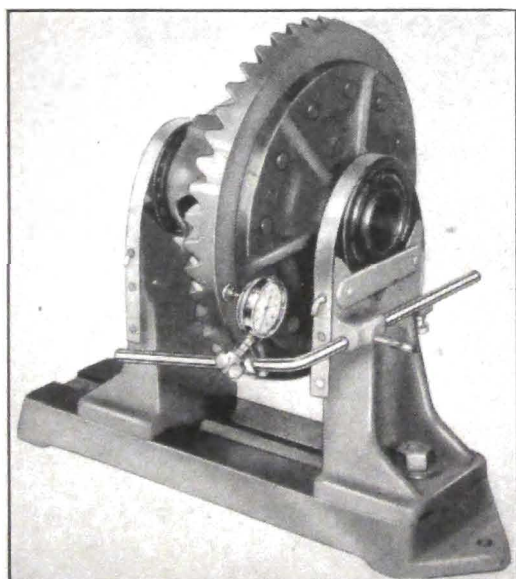

Fig. 4-13. Checking Ring Gear Run-Out
6. Bolt new ring gear to case with $\frac{5}{16}$ " diameter bolts in every other rivet hole. Before starting riveting operation check bolted assembly in tool U-4-B and check run-out of back side of ring gear. See Fig. 4-13. If run-out is more than .004" it indicates burrs or that case is not true.